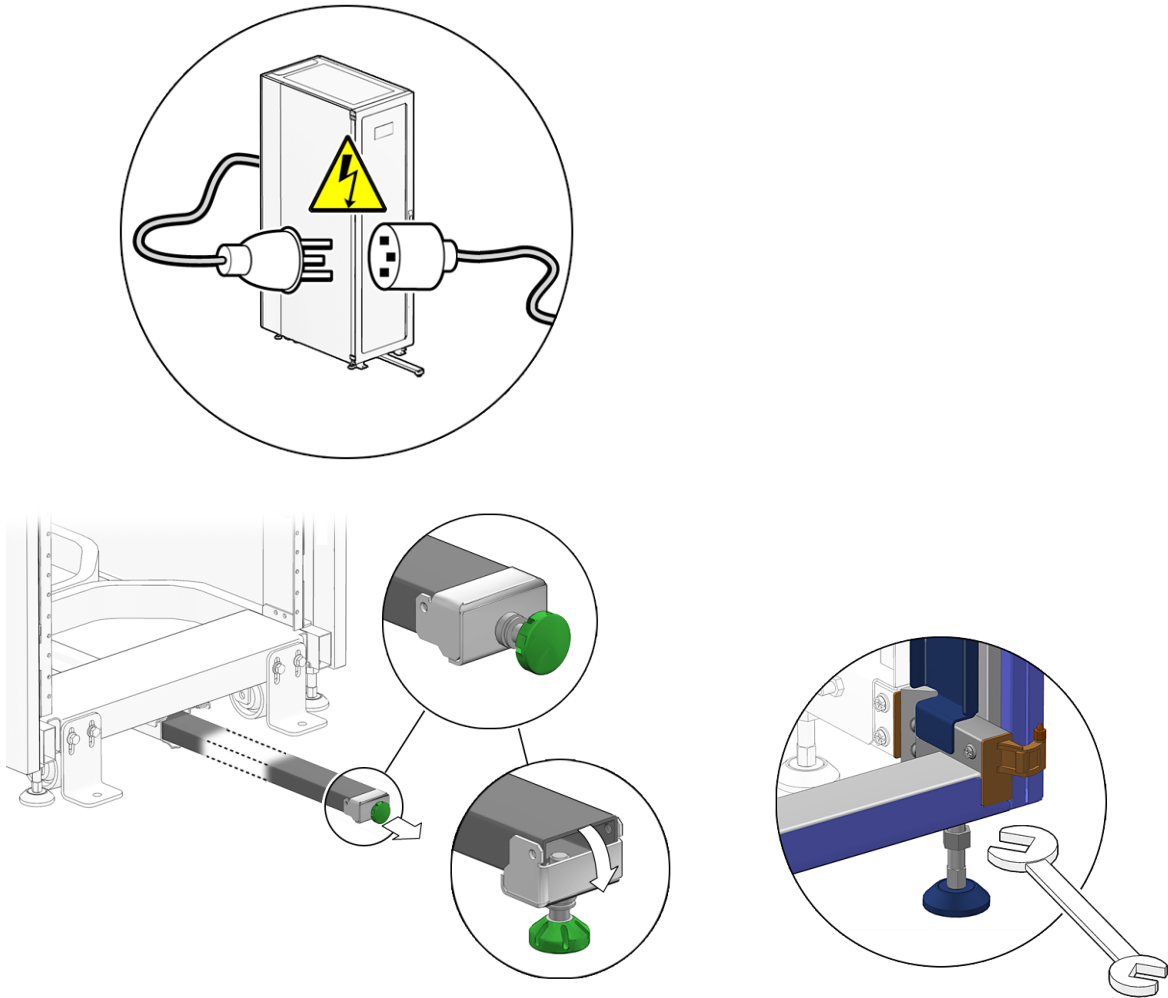

FIGURE 2-1 Removing the Power, Deploying the Antitilt Bar and Lowering the Sun Rack Feet
| FIGURE 2-1 | Removing the Power, Deploying the Antitilt Bar and Lowering the Sun Rack Feet | 6 |
- 2. Pull out the end of the antitilt bar to the fully extended position (FIGURE 2-1).**